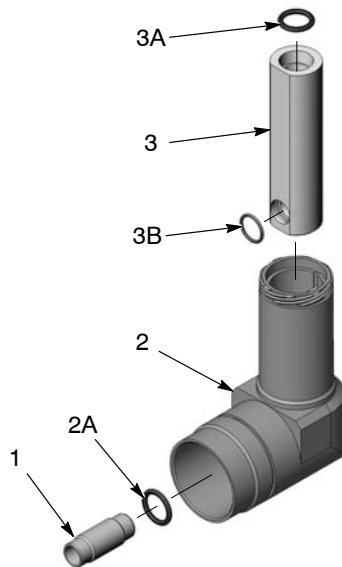

Figure 6 Exploded View of Extension Assembly
1. See Figure 6. Pull the powder tube (1) out of the gun end of the extension.
2. Pull the powder body (3) up and out of the nozzle end of the extension.
NOTE: The O-rings shown in Figure 6 are included in the extension body and powder body service kits. If replacing either component, there is no need to remove the O-rings.
1. See Figure 6. If replacing the extension body, make sure the O-ring (2A) is installed in the groove in the gun end of the new body before proceeding.